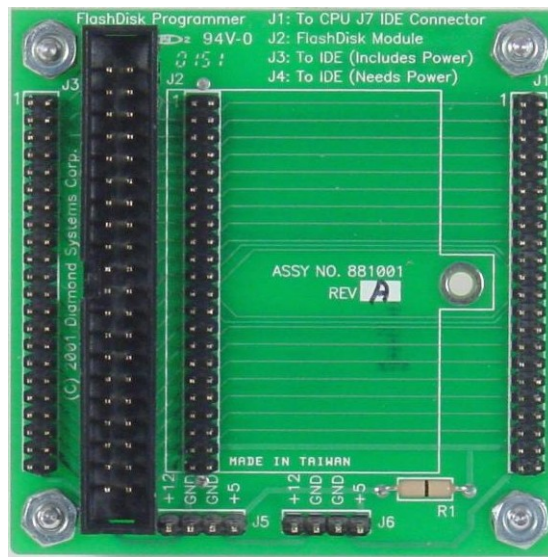

Figure 9. ACC-IDEEXT FlashDisk Programmer Board
2. Fasten the flashdisk in place by inserting one 2-56x pan head screw from the solder side of the FDPB board into the round spacer. Figure 9 below shows the ACC-IDEEXT FlashDisk Programmer Board.